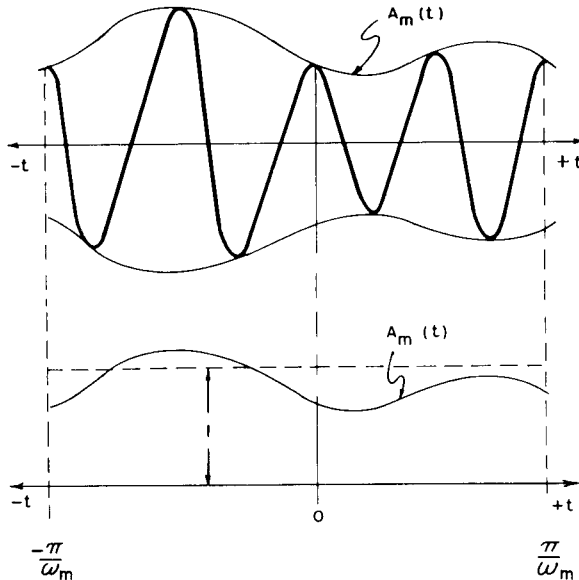
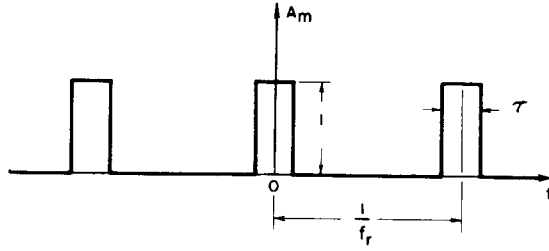

Figure B1. *Amplitude Modulation.*
Figure B2. Envelope of Pulse-modulated Carrier.
Part 1. *Amplitude Modulation. See figure B1.*
Referring to equations (3) through (6) and figure B1, let  $A_m(t)$  be as shown in figure B2. Thus,